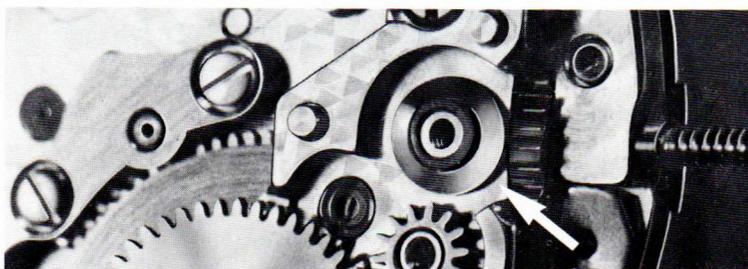

Fig. 8
7. Fit the crown wheel seat (No. 4442) with its convex side facing upwards (Fig. 8).